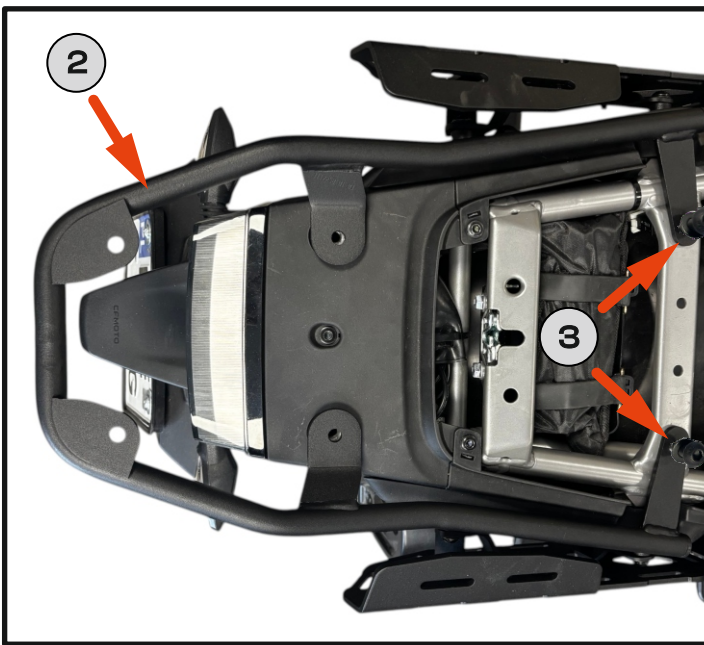

Fig. 3
2. Install the Luggage plate frame **[2]**. **[Fig. 3]**
3. Attach the luggage plate frame using a bolt **[4]** with a washer **[7]** at the indicated mounting points. **[Fig. 3]**